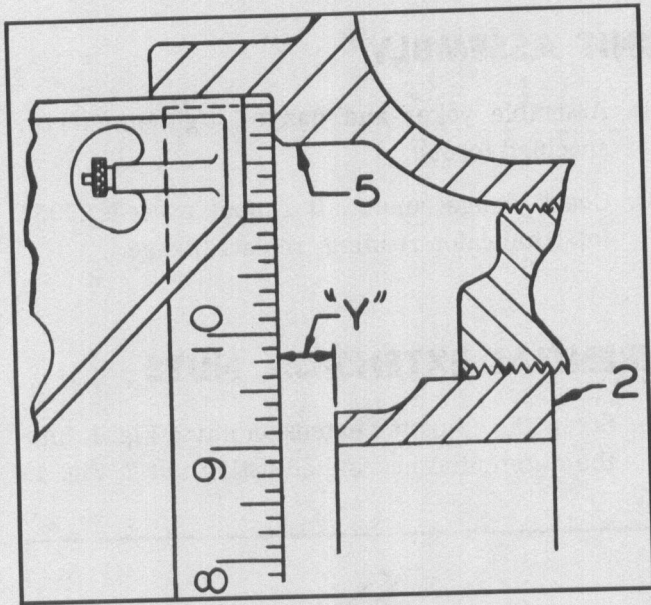

Figure 3
- C. Adjust the scale of the square as shown in Fig. 3. Hold square firmly against drive unit flange, 5, as illustrated. Measure the distance "Y", and record it.